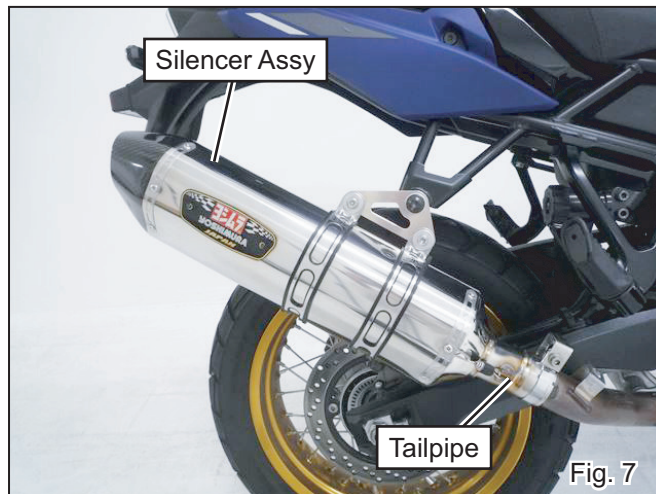

Fig. 7
- 7) Install Tailpipe in Silencer Assy and mount them on vehicle. Adjust angle of Silencer Assy and position of Silencer Bands to fit hole of Silencer Bracket at stock silencer bracket (See Fig. 7).